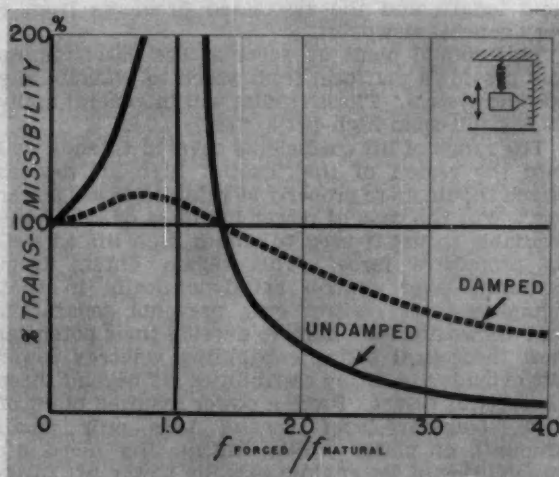

Fig. 5—Damping is advantageous in the region where the ratio of impressed frequency to the resonant frequency approaches one (1).
As shown in Fig. 5, damping is advantageous in the region where the ratio of the impressed frequency to the resonant frequency approaches one (1), but for all values where the mounting can be expected to reduce transmission (of noise and vibration in this case), the presence of damping makes transmissibility worse. Fortunately, the bad effect of dampening is not severe, hence a desired mount efficiency may have a reasonable tolerance spread to satisfy manufacturing needs and to maintain optimum damping within the operating temperature variations.